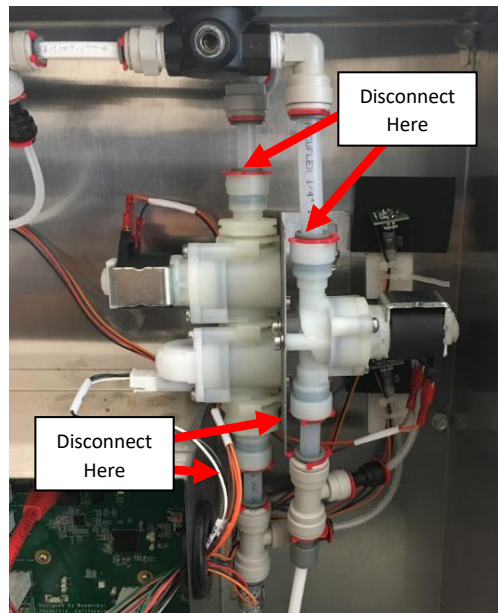

Figure G2: Connection Shown.
2. Remove all four locking clips holding the Flowmeter/Solenoid Module on the bottom end of the Solenoid Flowmeter Module and remove the 3/8" tube from it. See **Figure G2**.